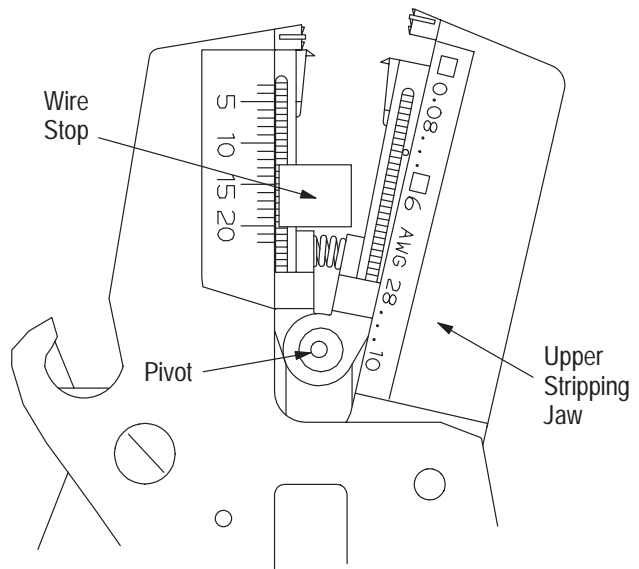

Figure 4
5.1. Jaw Removal (Figures 4 and 5)
1. Open the jaws and position the tool as shown in Figure 4.